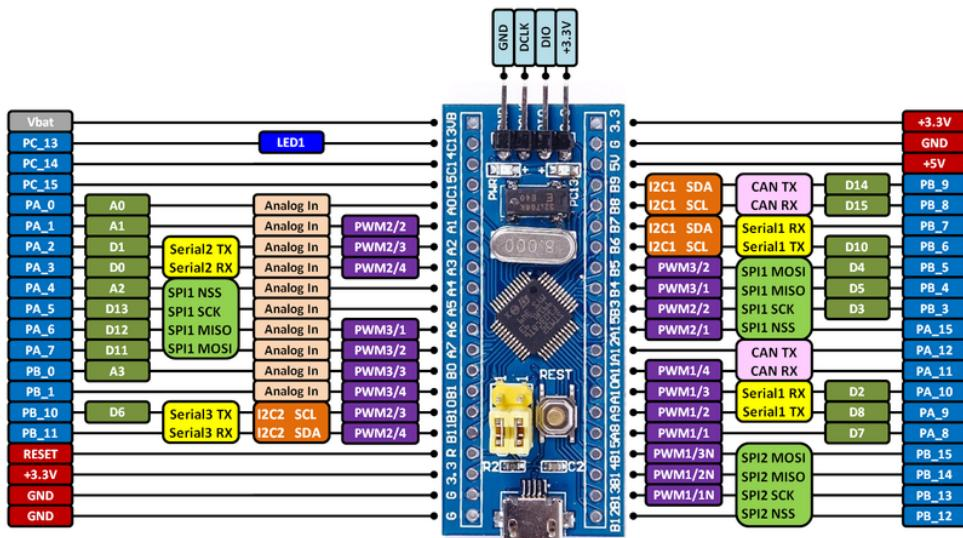

Fig. 13.1: Pin Connections of STM-32
1. The STM32F103C8T6 micro-controller in Fig. 13.1 has two ground pins, few analog input pins and few digital pins that can be used for both input as well as output. It has one Vcc (3.3V) pin that can generate 3.3V. In the following exercises, only the GND, 3.3V and digital pins will be used.